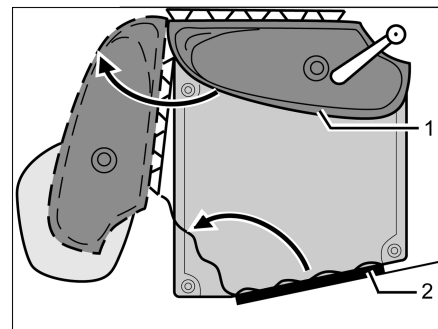

Fig. 378 Vario toilet
- Turn the wash basin and the rear wall (Fig. 378,1) in the direction indicated.
- Enter the toilet compartment and close the toilet door (Fig. 378,2) from the inside and lock.